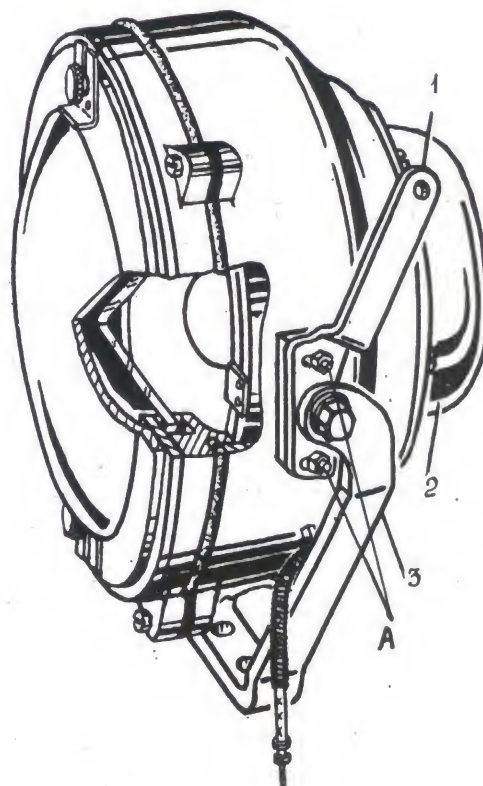

FIG. 105. SPOTLIGHT OY-3PA-2 OF NIGHT VISION DEVICE TKH-1C
3. Spotlight OY-3PA-2 (Fig. 105).
(e) aim the centre of the reticle in the field of view of the device at the selected ground feature and align the centre of the spotlight light spot with the same place of the ground feature. Tilt the spotlight in the vertical plane by changing the length of rod 4 through turning the rod sleeve. Horizontal shift of the spotlight is accomplished by making use of longitudinal slots A (see Fig. 105) in the trunnions. To this end it is necessary first to loosen the nuts securing the trunnions to the spotlight shell;